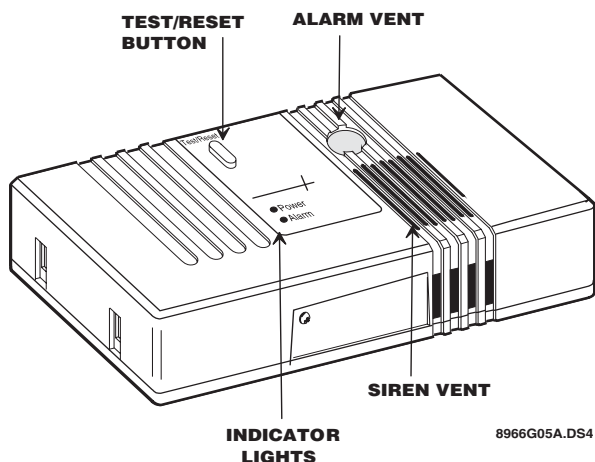

Figure 1. CO Alarm Features
The Learn Mode™ Carbon Monoxide (CO) alarm detects hazardous levels of CO gas. If a dangerous concentration of gas is detected, a red indicator light turns on and an internal siren is activated. The CO alarm also transmits an alarm signal to the control panel within 15 seconds of detecting CO gas (see Figure 1). The control panel activates its own sirens and reports the alarm to the central monitoring station (if the system is monitored).